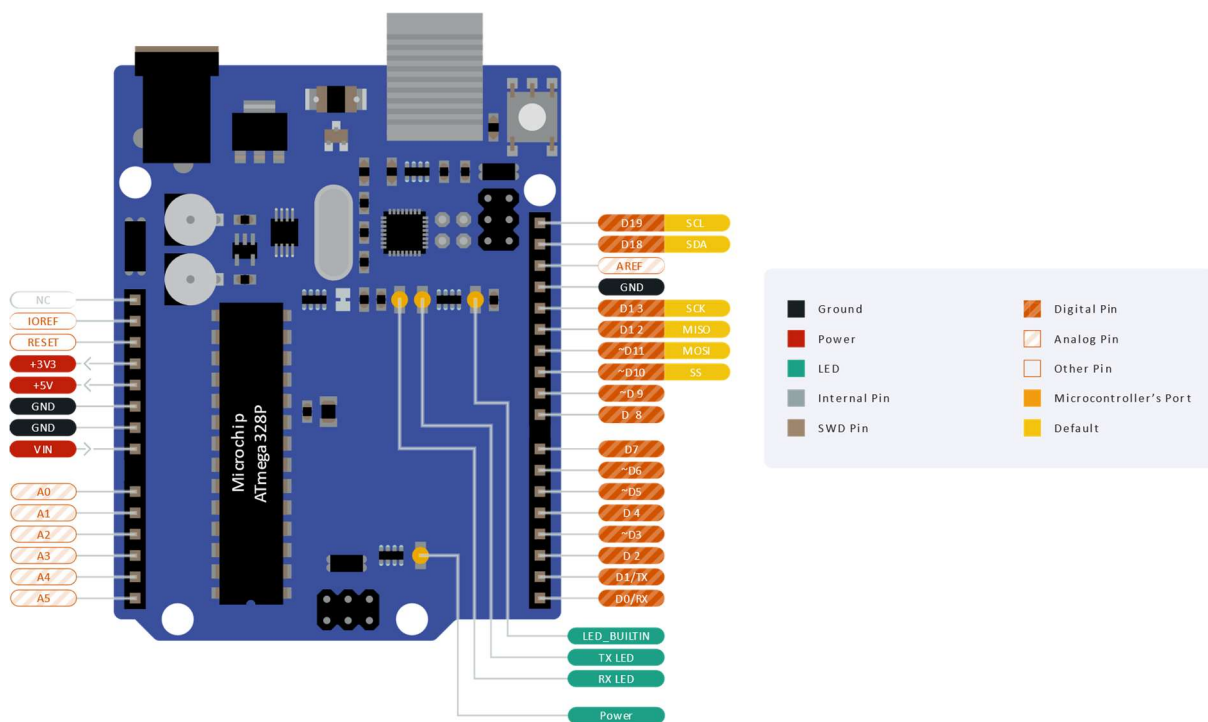

Figure 1. An Arduino UNO and its pins. The pin diagram has been simplified for the purposes of this guide. The full version is available at bit.ly/3jg6PM2.
Figure 1 shows the hardware for an Arduino Uno. The microcontroller (a Microchip ATmega328P) is the large integrated circuit (IC) in the lower-left section of the board. The Arduino includes all the software and hardware needed to be powered and programmed through USB, and all its inputs and outputs are brought out on connectors (analogue and digital pins) running on along the side edges.
There are five pin types that are worth remembering and will be used throughout this guide (refer to Figure 1):